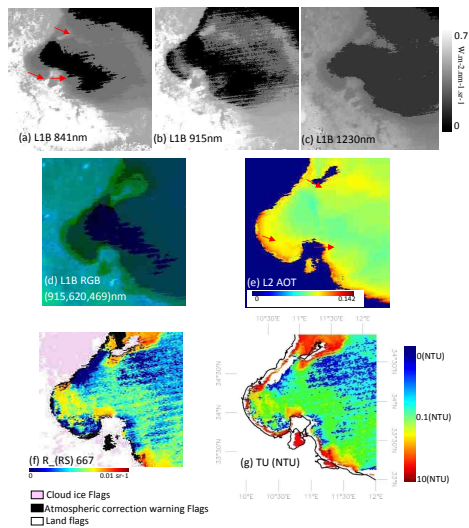

Fig. 3.
Technical corrections (1) In this paper, is R^2 different from correlation coefficient and regression coefficient? if so please be uniform throughout the manuscript (2) space between numerical values and units or operators e.g. 2m is better presented as 2 m. (3) combine paragraphs to limit number of paragraphs in the whole manuscript (4)R_RS the RS in caps and italics (5) page 3 equation 1 and 2 too many brackets check this (6)page 3 line 34 , please be consistent 5th or 5th ? (7)page 4 line 22 to line 42 check for spaces between units and numeral and also on line 28 add : after (Fig. 3.b) and better 'contains' not 'contain' (8) equations are better placed in a new line and follow the guidelines of journal (9) Figures need to be resized they are just too small (10) the plots need to have the outer borderlines removed, and add top and right